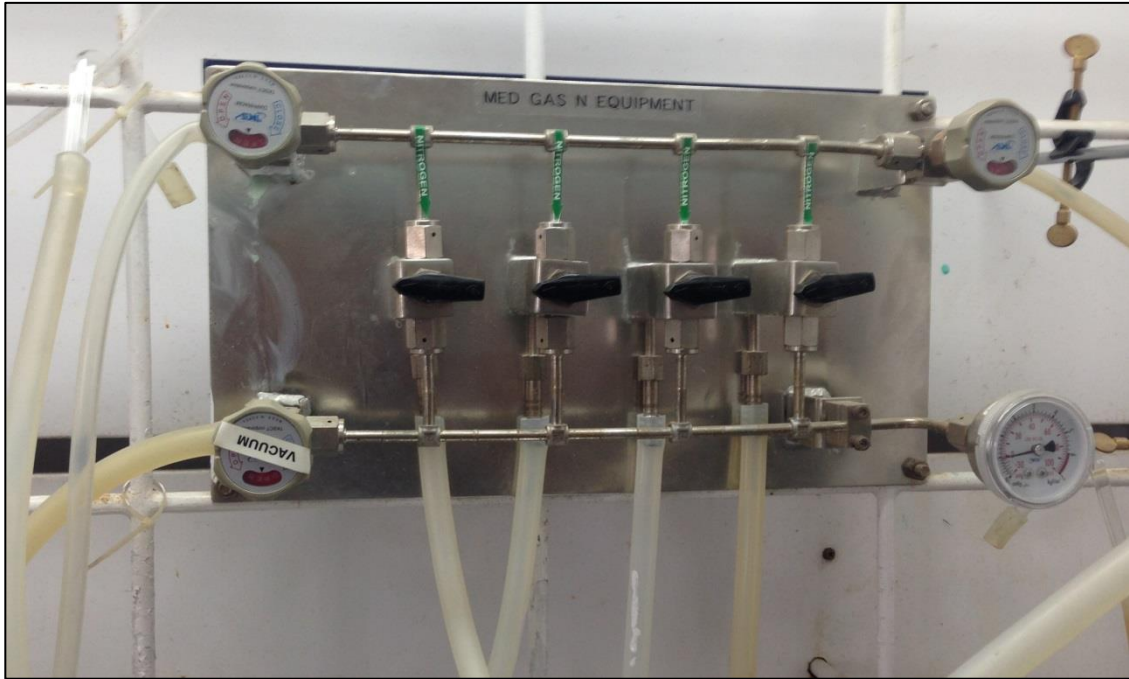

Fig. 1
1. The mixing of titanium isopropoxide (1 ml) to acetic acid (2 ml) is done using the Schlenk line in FH 1 (**Fig. 1**)